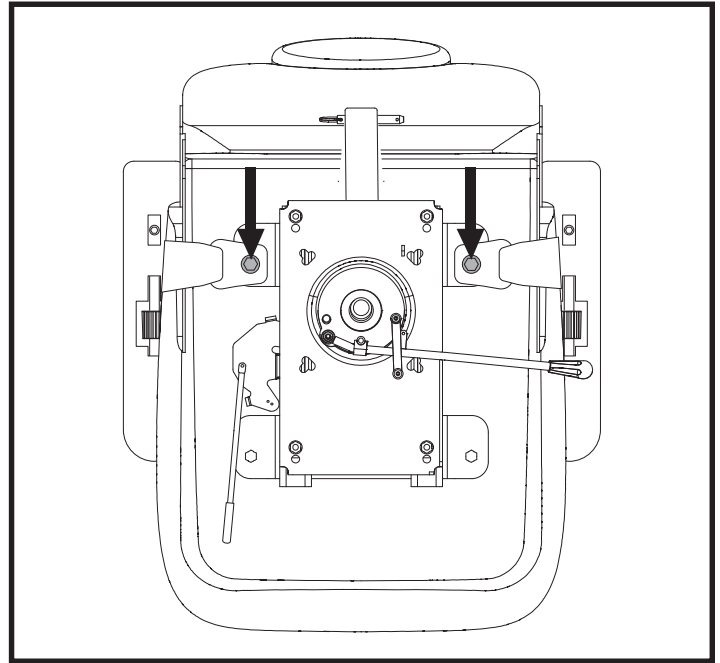

Figure 21. Positioning Belt Bolts
2. Place the seat upside down so that you can see the bottom of the seat base. See **figure 21**.
1. Insert the metal tab on the right side of the belt into the plastic housing on the opposite strap until you hear a “click.” See figure 21.